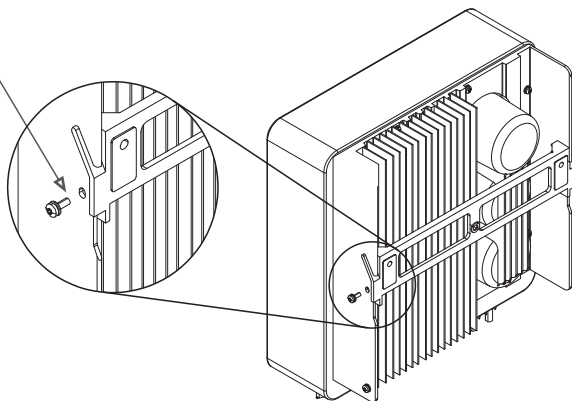

Figure 4.5 Wall Mount Bracket
4. Lift up the inverter (be careful to avoid body strain), and align the back bracket on the inverter with the convex section of the mounting bracket. Hang the inverter on the mounting bracket and make sure the inverter is secure (see Figure 4.5).